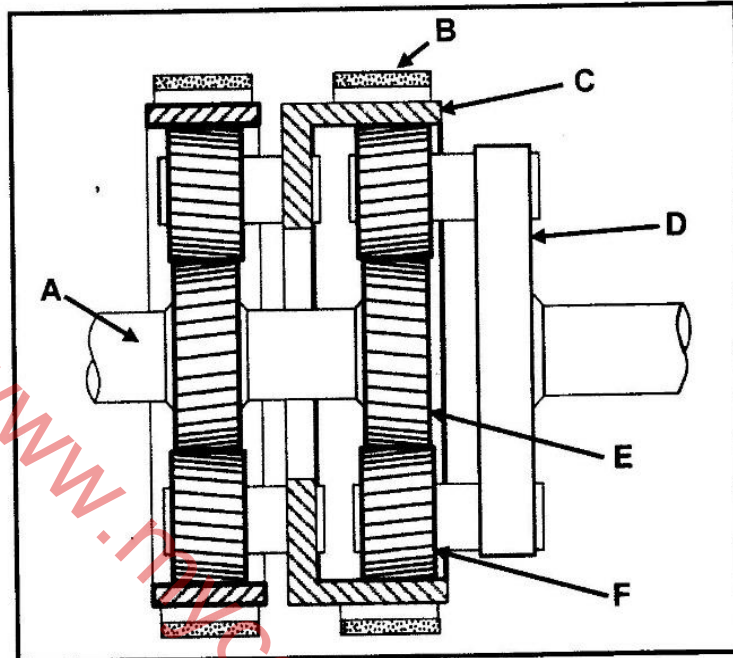

FIGURE 9.1
9.1 Study the cross-sectional view of a double epicyclic gear system in FIGURE 9.1 below. Answer the questions that follow.
9.1.2 Describe, in detail, the operation of the gear system in FIGURE 9.1 when low gear ratio/gear reduction is obtained. (4)
HINT: Use FIGURE 9.1 to assist you in your answer.